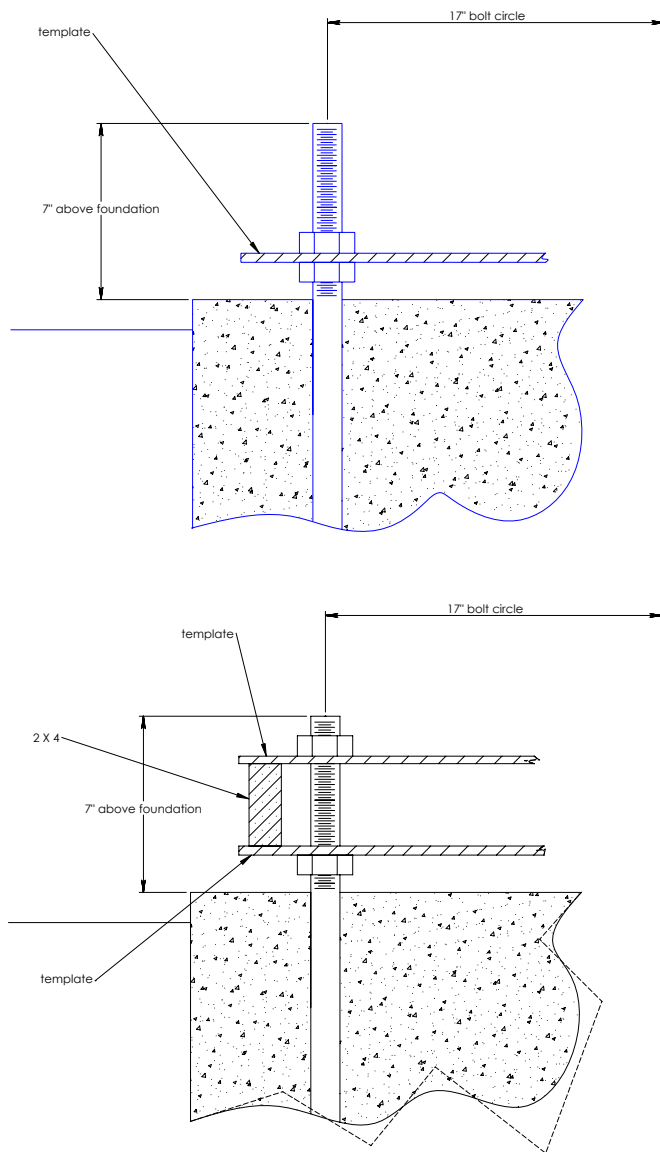

Fig. B5 “J” bolts and template (all towers)
- Adjust the “J” bolts to extend 7 – 8 inches (17.8 cm-20.3 cm) above foundation as shown in **Fig. B5**.